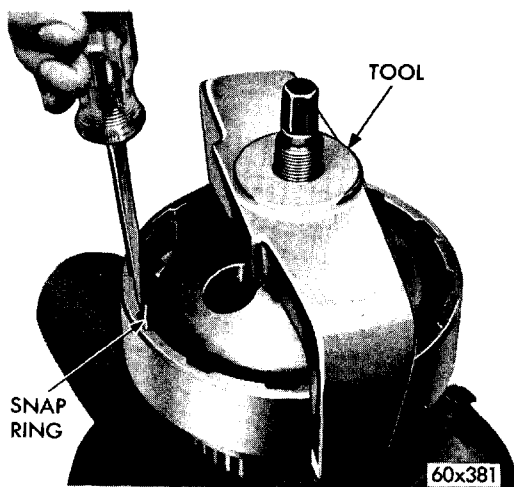
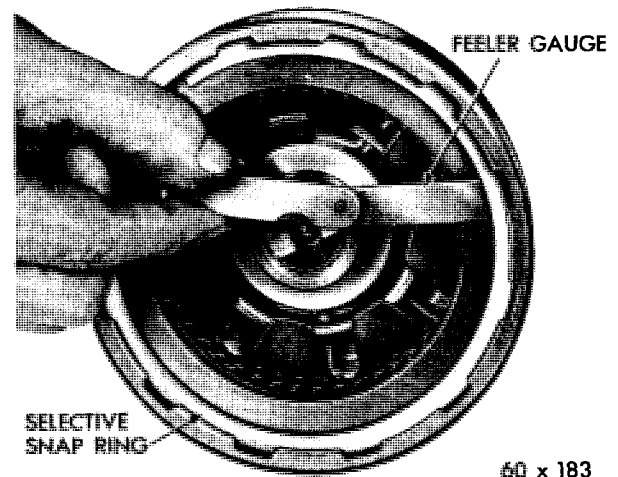

Fig. 49—Removing or Installing Rear Clutch Spring Retaining Snap Ring
Fig. 50—Checking Rear Clutch Plate Clearance
(2) Install compressor, Tool C-3760 over piston spring as shown in Figure 49. Compress spring just enough to clear snap ring, then remove snap ring.
(3) Remove compressor tool and piston spring. Invert clutch retainer assembly and bump on a wood block to remove the piston. Remove seal rings from the piston.
(2) Place piston assembly in retainer and, with a twisting motion, seat piston in bottom of retainer.
(3) Place spring over piston with outer edge of spring positioned below snap ring grooves. Install compressor, Tool C-3760 over spring (Fig. 49), compress spring just enough to install snap ring. Remove compressor tool.
(4) Install inner pressure plate in clutch retainer with raised portion of plate resting on the spring.
(5) Lubricate all clutch plates, install one lined plate followed by a steel plate until all plates are installed. Install outer pressure plate and snap ring.
(6) With rear clutch completely assembled, insert feeler gauge between pressure plate and snap ring (Fig. 50). The clearance should be between .018 to .036 inch. If not, install a snap ring of proper thickness to obtain the specified clearance.